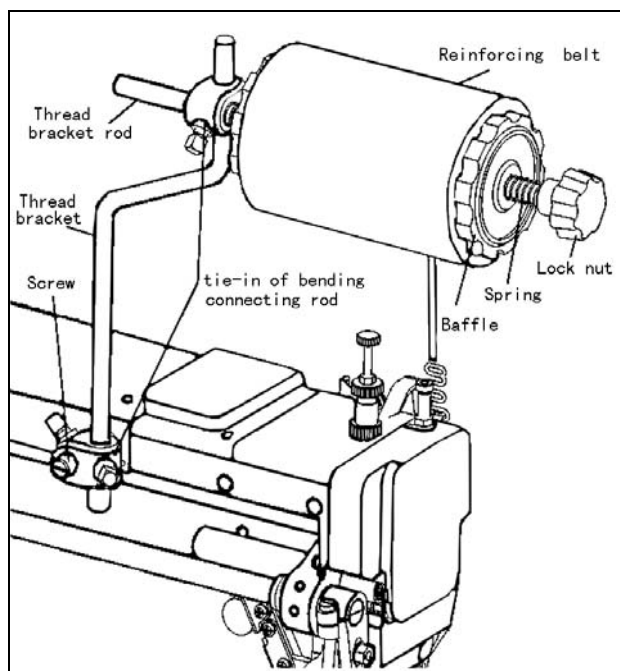

Fig. 42
36、Install the stand of Reinforcing belt (Fig.42)